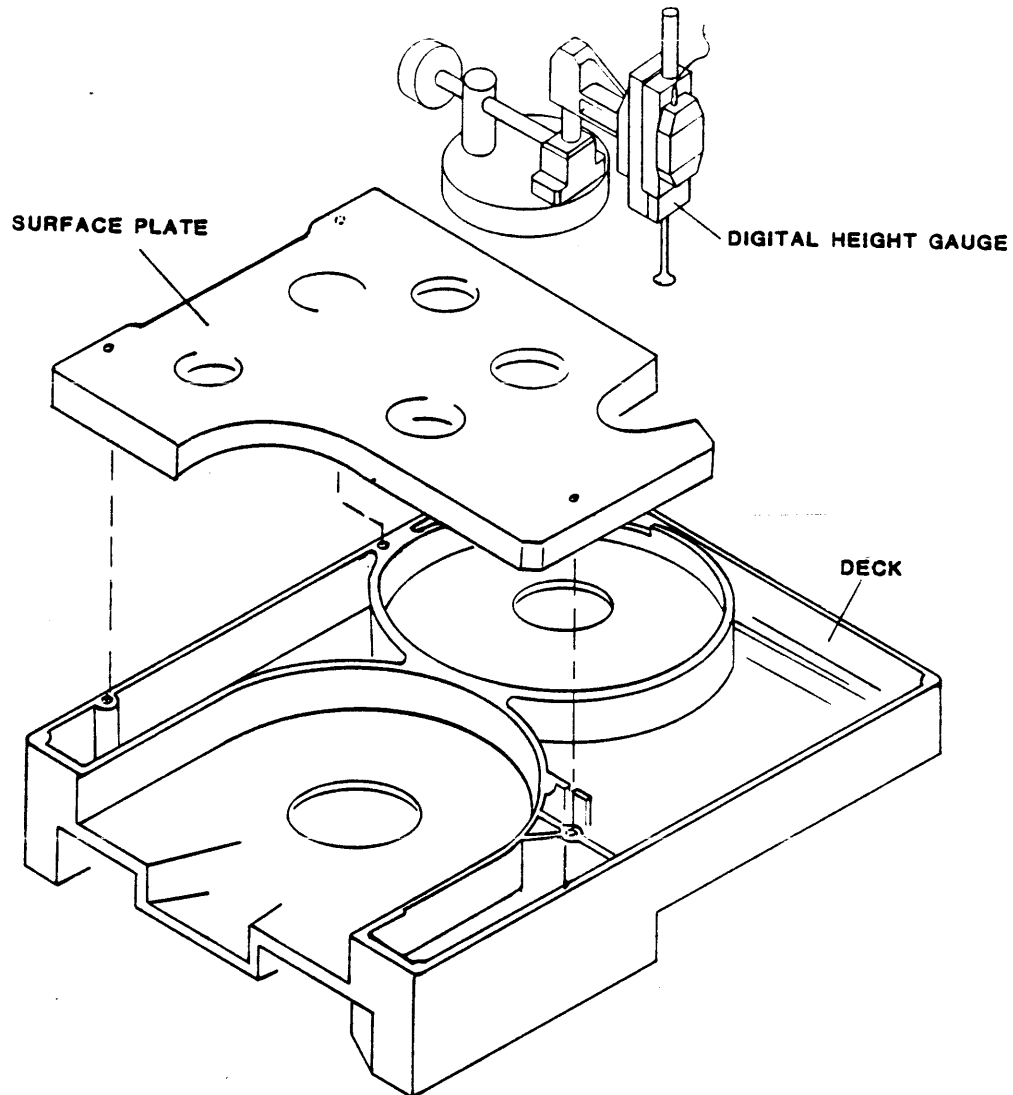

Figure 5-29. Tape Rollers Height Adjustment
5.4.2.1 BUFFER ARM ROLLERS & FIXED ROLLERS HEIGHT ADJUSTMENT (Fig. 5-29)
2. Place the Surface Plate on the topside of the Deck, insuring that the two locating pins are in the holes provided on the Deck. Place the Height Gauge on the Surface Plate to begin tape path alignment. Verify distance from 0.500" spacer to top of split guide (supply side) is within tolerance (.7745 +/- .0010). See Figure 5-29.
3. Position Height Gauge so indicator pad contacts the top surface of the split tape guide on the supply side of the Head. Zero the Height Gauge. See Figure 5-29. Raise and lower deck gently until digimatic reading repeats to zero. Check the height of Collets and record the readings on data sheet. Re-set Collets to meet the required dimension. Torque the Collet Screw to 19-21 in-lbs. Re-assemble Supply Hub and Take-up Reel and torque the screw to 18-20 in-lbs.